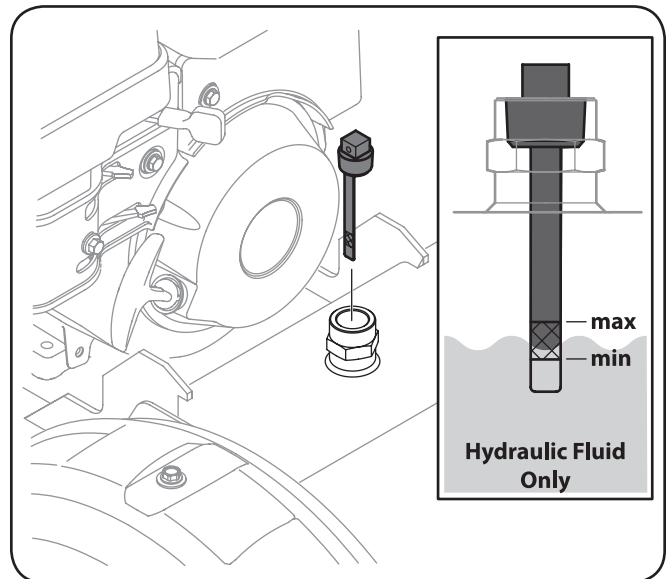

Figure 3-9
- Remove the vented reservoir dipstick, which is located in front of the engine on top of the reservoir tank. See Figure 3-9.
- Check the fluid level using the dipstick. See Figure 3-9. Do not overfill.